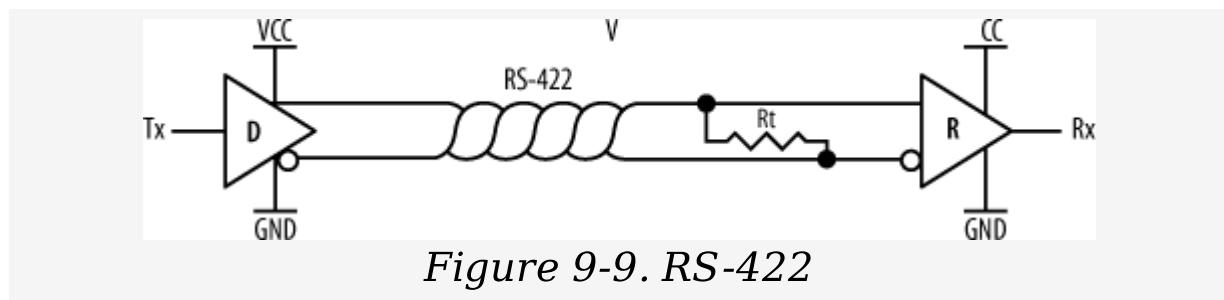

Figure 9-9. RS-422
Figure 9-9 shows a basic RS-422 link, where a driver (D) of one embedded system is connected to a receiver (R) of another embedded system via a twisted pair. The resistor, R_t , at receiving end of the twisted pair is a *termination* resistor. It acts to remove signal reflections that may occur during transmission over long distances, and it is required. R_t is nominally 100-120 Ω .